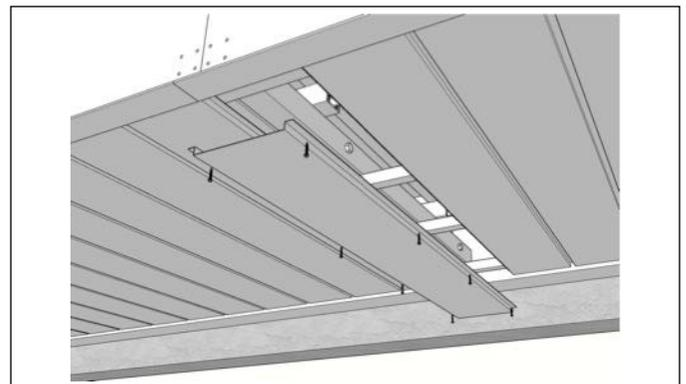

Fig 16
10. Locate loose soffit panels, sizes and locations can be found on the drawings. Secure using supplied screws (Fig 16).